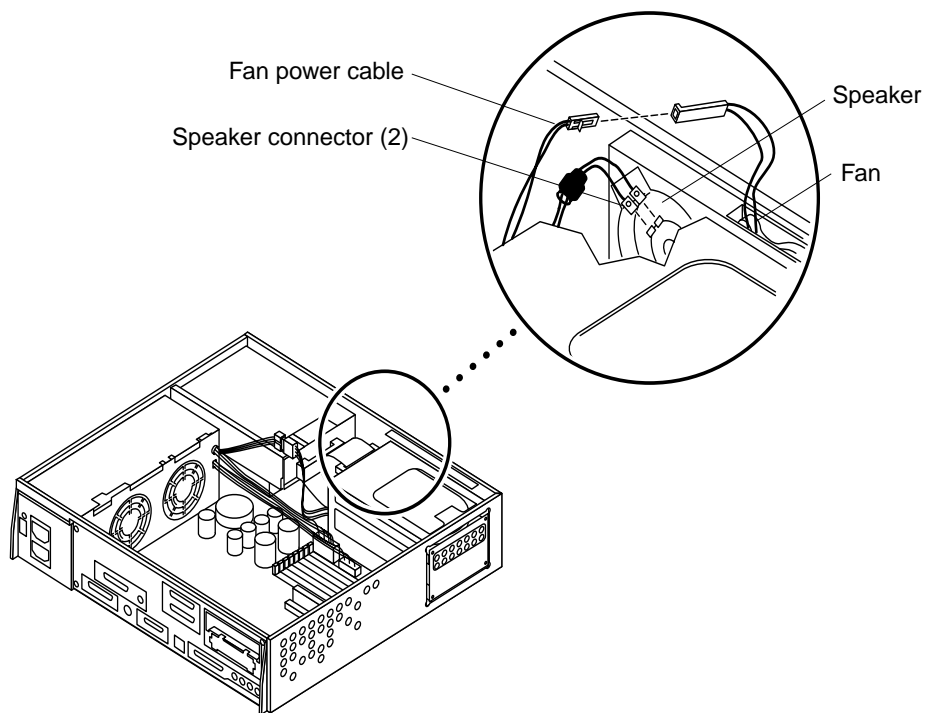
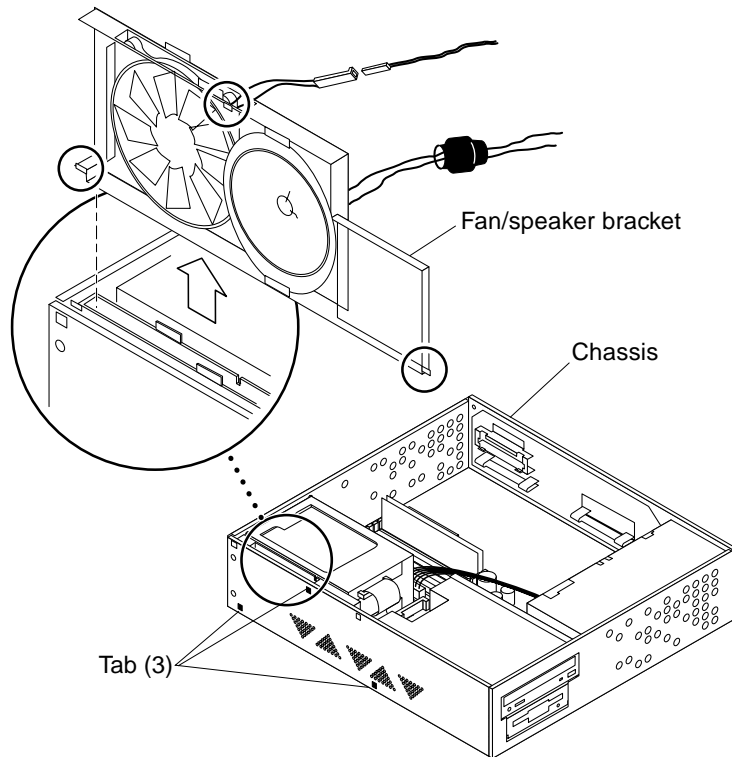

FIGURE 8-7 Fan and Speaker Cable Connection
FIGURE 8-8 Removing the Fan/Speaker Bracket
4. Disconnect the speaker as follows (FIGURE 8-7 and FIGURE 8-8):
2. Connect the speaker as follows (FIGURE 8-7):